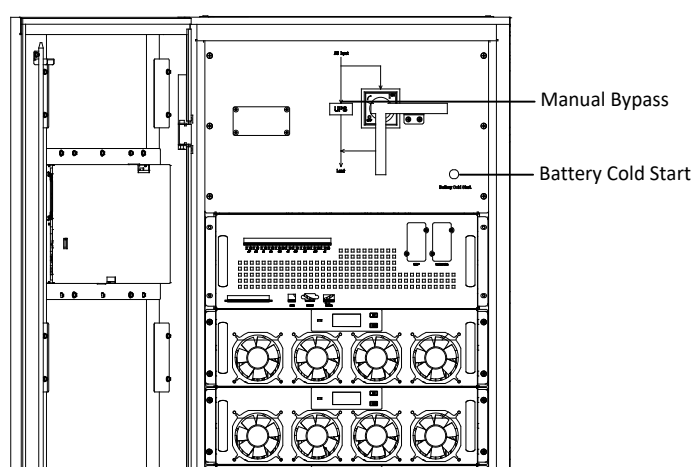

Fig.5-1 The position of the battery cold start button for 10-slot cabinet
2. Press the red button for the battery cold start (See Fig.5-1). The system is then powered by the battery. For the 20-slot UPS, there are 2 battery cold start button, for each of the button, it can only start the power modules of its cabinet(See Fig.5-2).